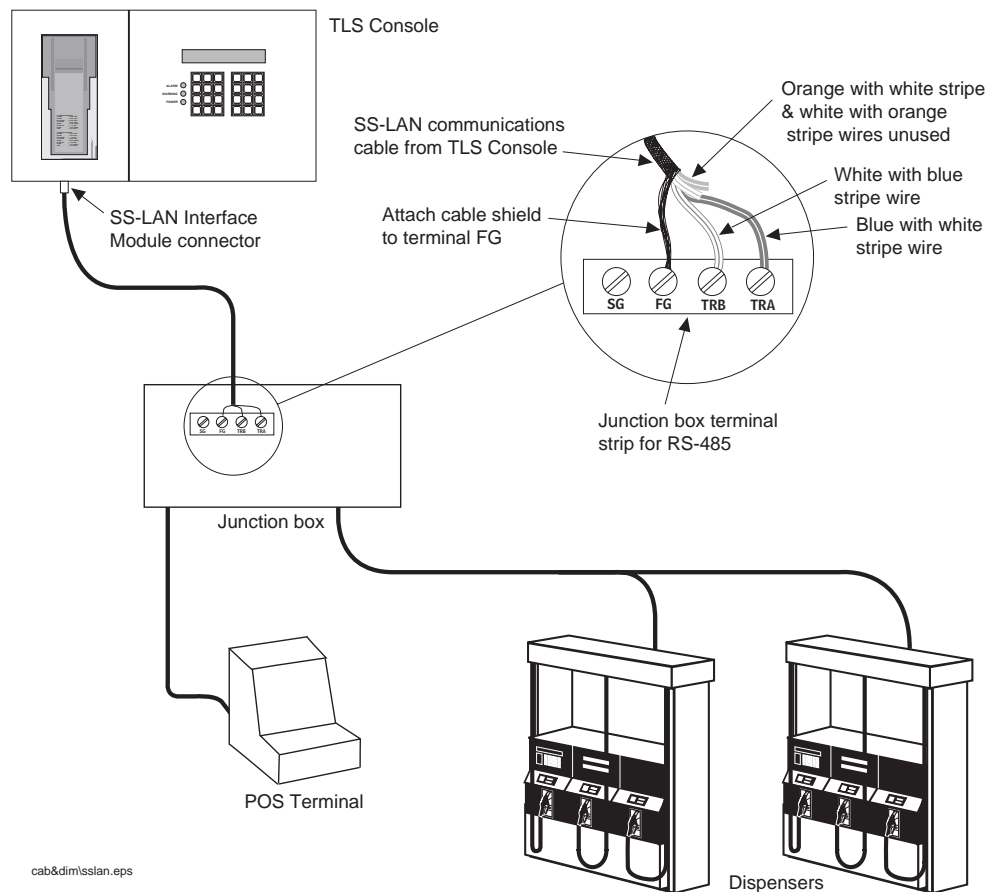

Figure 3. SS-LAN Interface Example Wiring Diagram
1. Refer to [Figure 3] and locate the TRA and TRB terminals on the terminal block located inside the junction box. The TRA and TRB terminals are the differential signals used in the RS-485 interface for the SS-LAN.